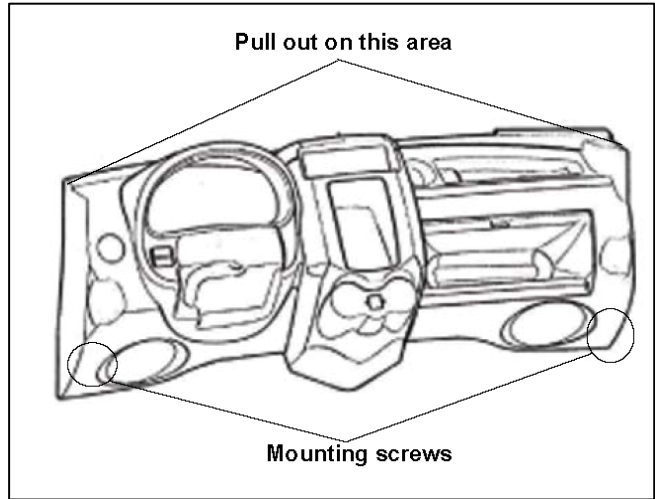

Figure 7-10
5. Remove two screws (one each side) from under side of dashboard (Figure 7-10).
7. Pull out on the sides of the dashboard (Figure 7-10) to release it from the cab.
5. Secure each side of dashboard with screws (Figure 7-10).